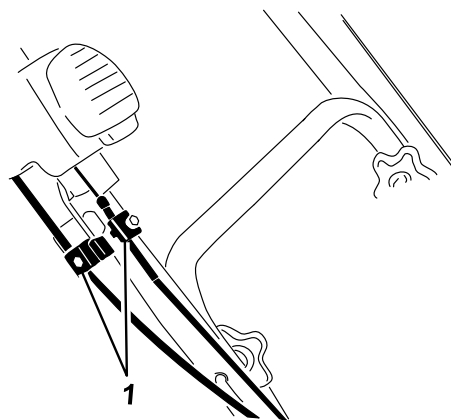

Figure 34
- Loosen the 2 Quick Shoot control-cable clamps (Figure 34).